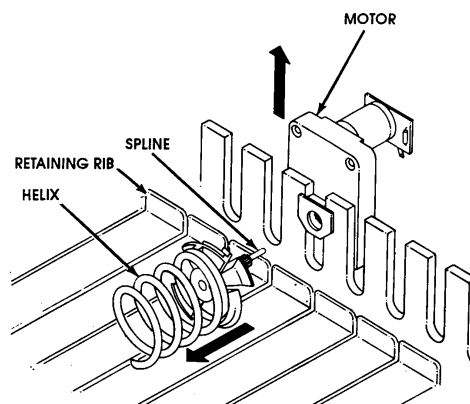

FIGURE 10. Helix Coupling
4. Lift the helix and motor slightly (approximately 3/4-in to disengage the helix hub from its retaining rib in the bottom of the tray. See Figure 10.
5. Separate the helix and hub from the motor slightly (approximately 1-in) by pulling forward on the helix hub to disengage its spline from the motor's internal gear. See Figure 10.
7. Push down on the motor and helix hub to re-seat the helix hub onto its retaining rib in the bottom of the tray. See Figure 10.